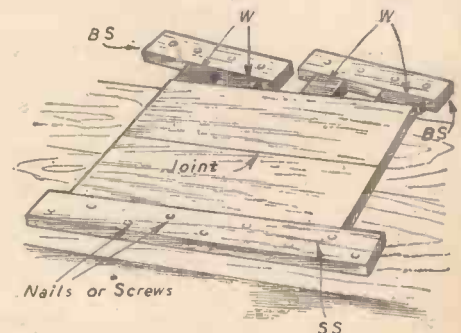

Fig. 4.—Bench wedge cramps.
Where carpenters' cramps are not available and the job is too big to get between the jaws of the bench vice, a good idea is to make a series of wedges on the flat of the bench. One board is made to rest up against a stop strip (SS Fig. 4) nailed to the bench, and at the other side two or more backing strips (BS) (according to the length of the job) are nailed down at an angle with a gap intervening. Wedges (W) are then driven in, as shown in the sketch.